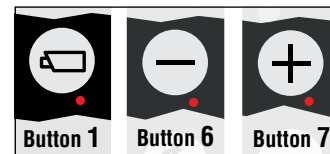

Figure 13
To open the service menu, simultaneously press the camera selection button (1), the minus button (6) and the plus button (7) (see Figure 13). The display (see Figure 14) will appear. The following buttons are used to navigate through the menus: